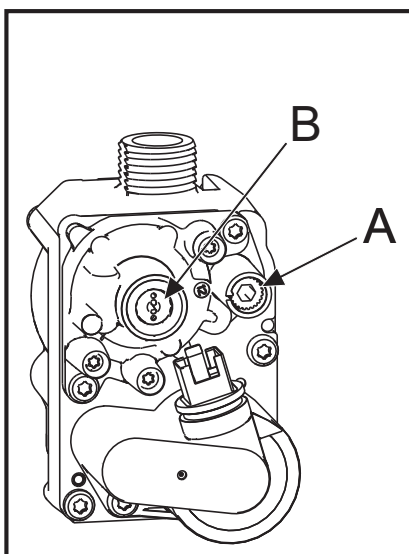

fig. 31 - Gas valve
3. Now adjust the **Throttle setting** (fig. 31 - screw **A**) until the CO₂ is at the correct **SETTING LEVEL** (see table 4), confirm that the CO/CO₂ ratio is within limits.
2. Now adjust the **offset pressure setting** (fig. 31 - cup **B**) until the CO₂ is at the correct **SETTING LEVEL** (see table 5), confirm that the CO/CO₂ ratio is within limits.